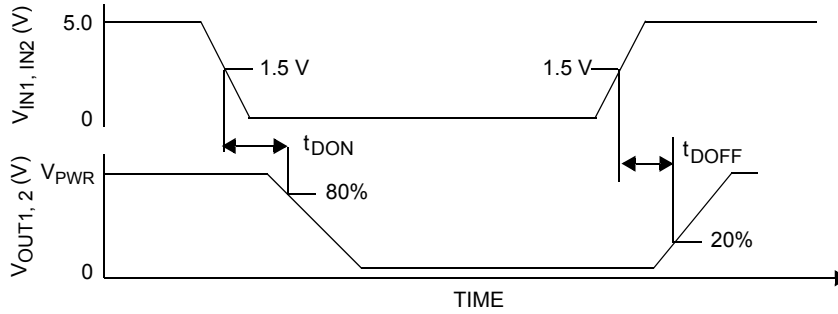

Figure 4. Output delay time
- \* Output Delay is the time duration from 1.5 V on the IN1 or IN2 input signal to the 20% or 80% point (dependent on the transition direction) of the OUT1 or OUT2 signal. If the output is transitioning HIGH-to-LOW, the delay is from 1.5 V on the input signal to the 80% point of the output response signal. If the output is transitioning LOW-to-HIGH, the delay is from 1.5 V on the input signal to the 20% point of the output response signal. See Figure 4, page 10.